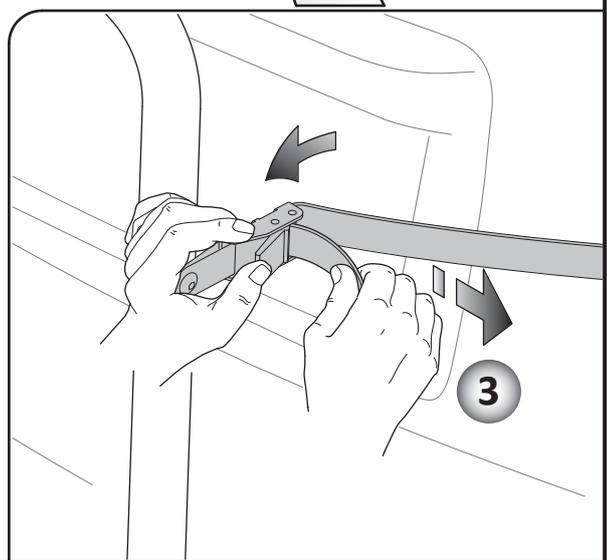

Fig. H3
**IMPORTANT:** For safe transportation of the load the bike carrier is supplied trap for tying es to the fixing arch. Check that the belt is mounted correctly by pulling on it (**4 Fig. H3**).